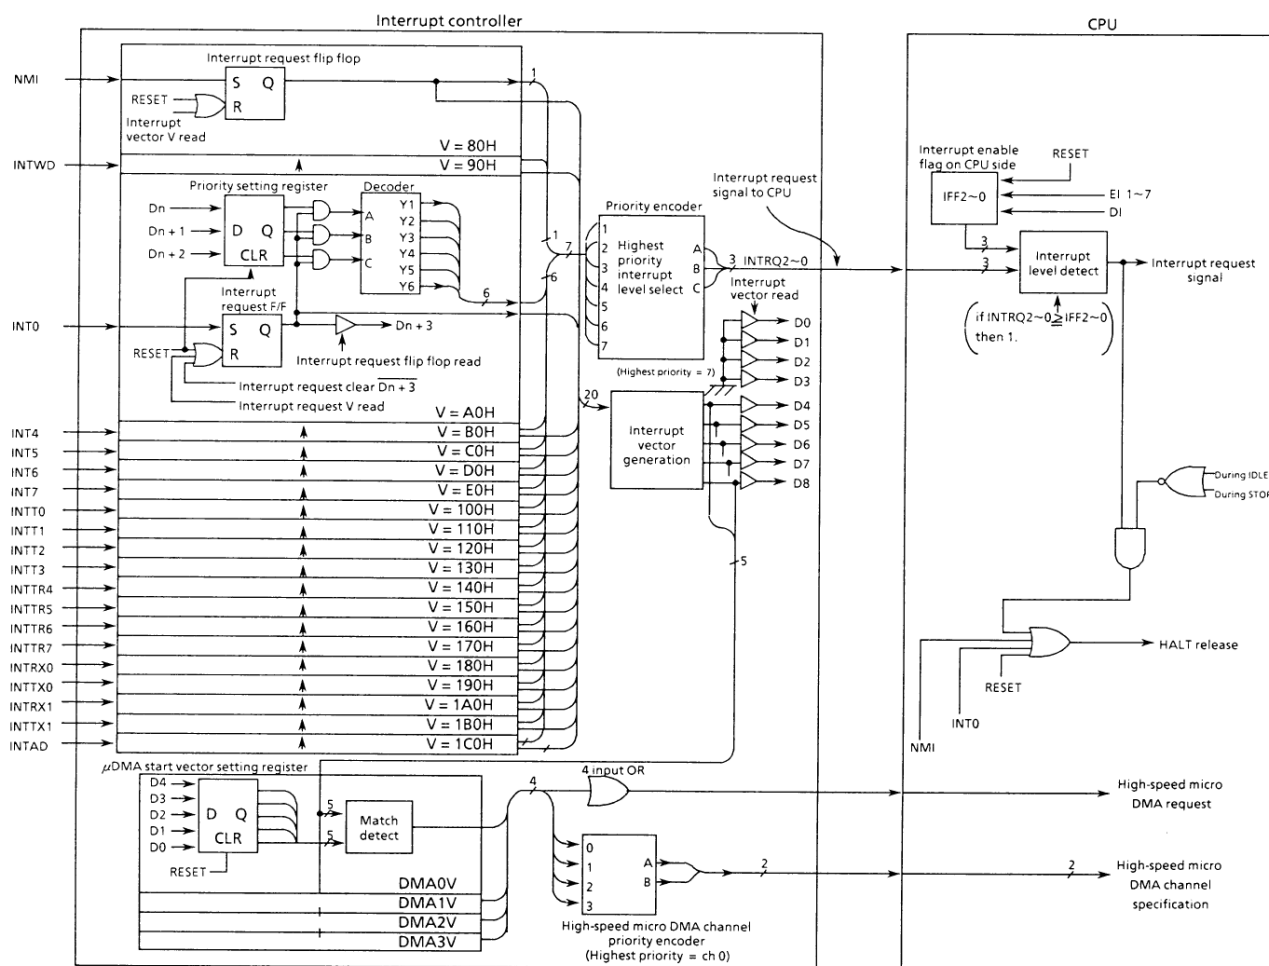

Figure 3.3.3 (1) Block Diagram of Interrupt Controller
Figure 3.3.3 (1) is a block diagram of the interrupt circuits. The left half of the diagram shows the interrupt controller; the right half includes the CPU interrupt request signal circuit and the HALT release signal circuit.